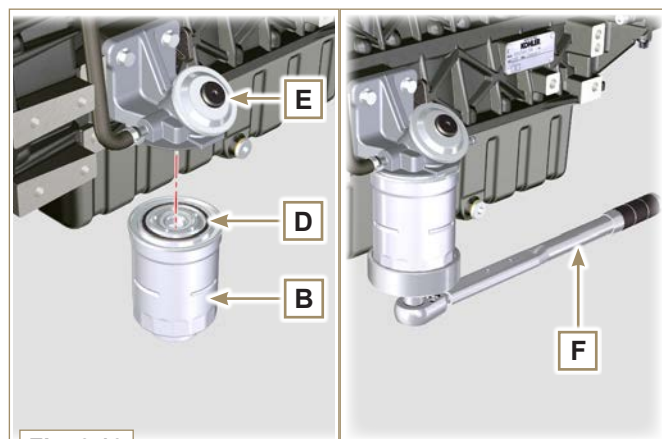

Fig. 6.10
- 3 - Loosen the cartridge **B** using the appropriate wrench **F** (Fig. 6.10).
- 5 - Tighten the new empty cartridge **B** (Fig. 6.10) on the diesel fuel filter support **E** using the special wrench **F** (tightening torque of 17 Nm).